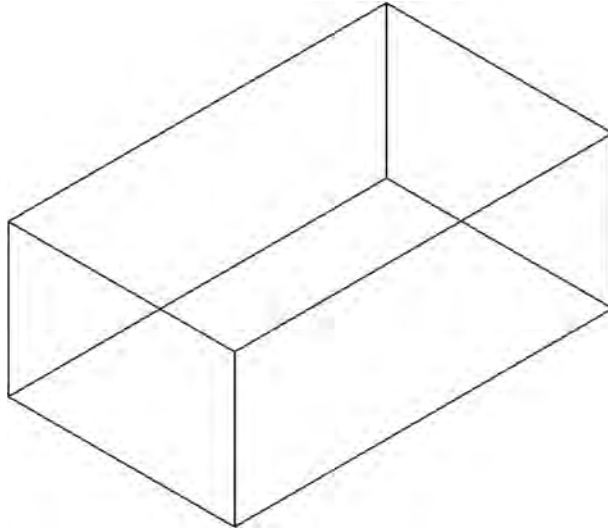

FIGURE 21.22
Step 3. You can move your mouse up and down and create a thickness in real time, but it is more practical to type in a value, so go ahead and type in 4 for the thickness. You should see what is shown in Figure 21.22.